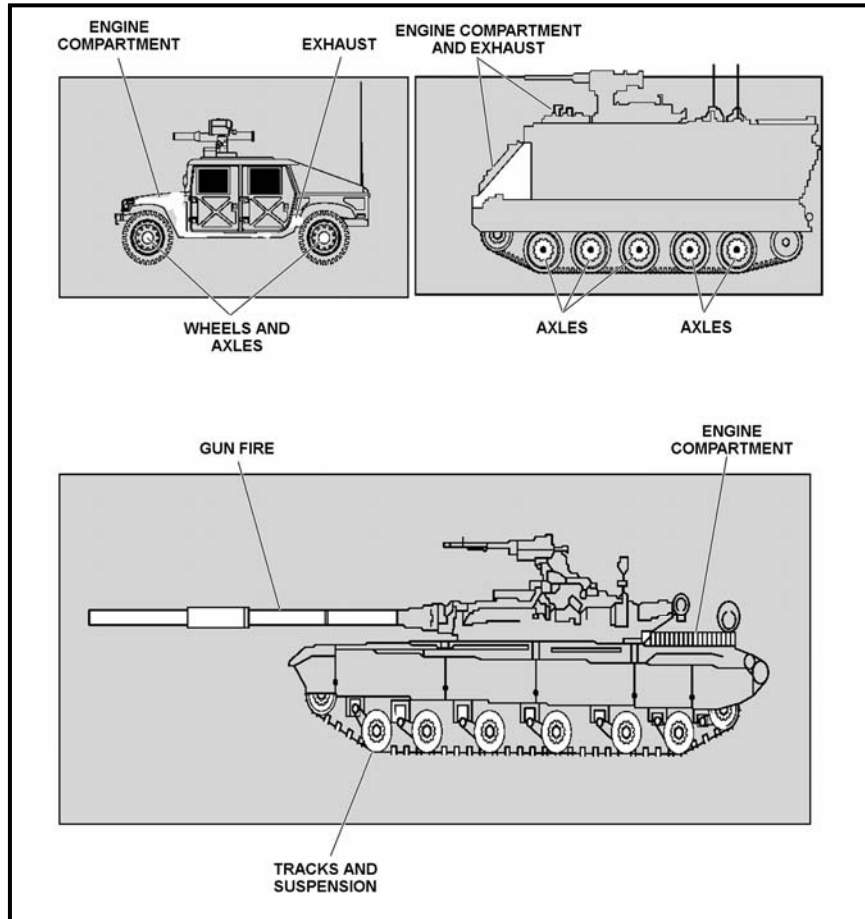

Figure 3-8. Determine type of target.
- d. The gunner determines if the target is a wheeled or track vehicle. If it is a track vehicle, he determines if it is an APC or a tank (Figure 3-8, page 3-10).